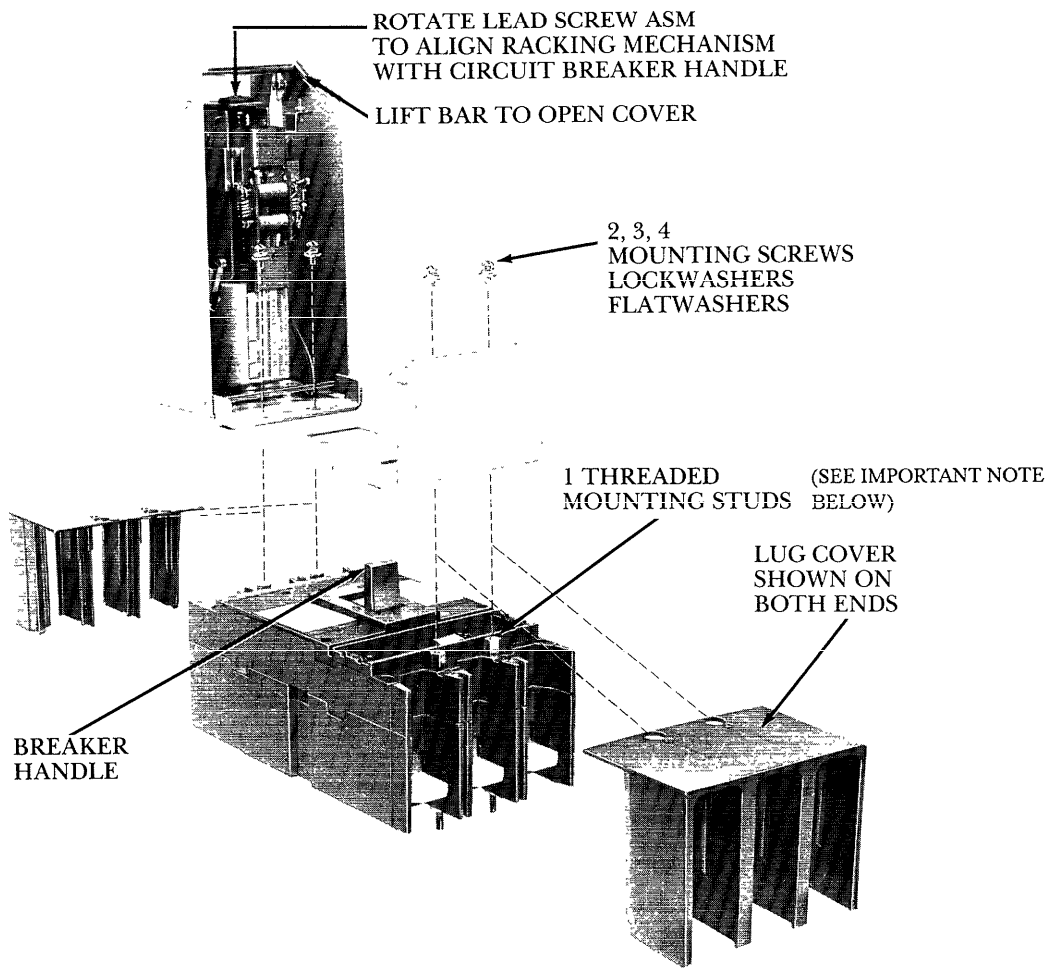

Figure 1.
Lift the cover to disengage the handle and operate the breaker handle. See Figure 1. To return the breaker to electrical operation, align the breaker handle with the operating mechanism and close the cover. (See Electrical Operation.)
- *1. Mount circuit breaker using mounting studs (1).
- 4. Position motor-operated mechanism over the breaker escutcheon. See Figure 1.
- 5. Install motor-operating mechanism using screws (2), lockwashers (3), flat washers (4) supplied. See Figures 1 and 2.
- 6. Align racking mechanism and circuit breaker handle by rotating lead screw. Close cover. See Figure 1.